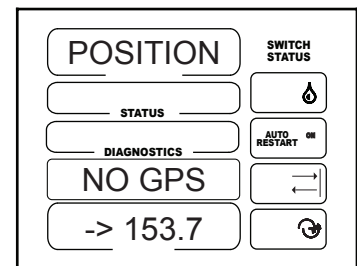

Figure 37-2
3. If a GPS signal is not found, NO GPS will be displayed. See figure 37-2.